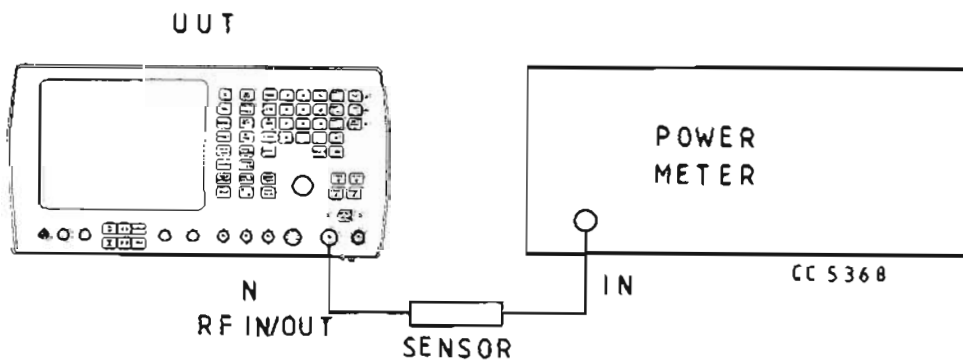

Fig. 20 Test equipment connections for r.f. generator output level performance checks
- (1) Connect the equipment as shown in Fig. 20, using the 6920 power sensor.